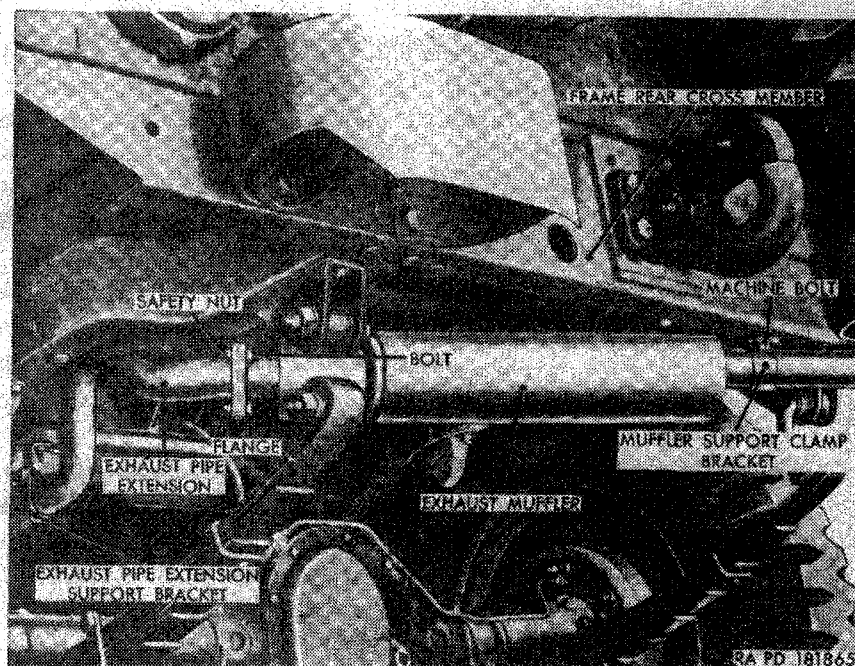

Figure 73. Exhaust muffler with bracket assembly—installed.
- (1) Remove the three nuts and bolts securing the exhaust pipe extension to the exhaust pipe (fig. 73).